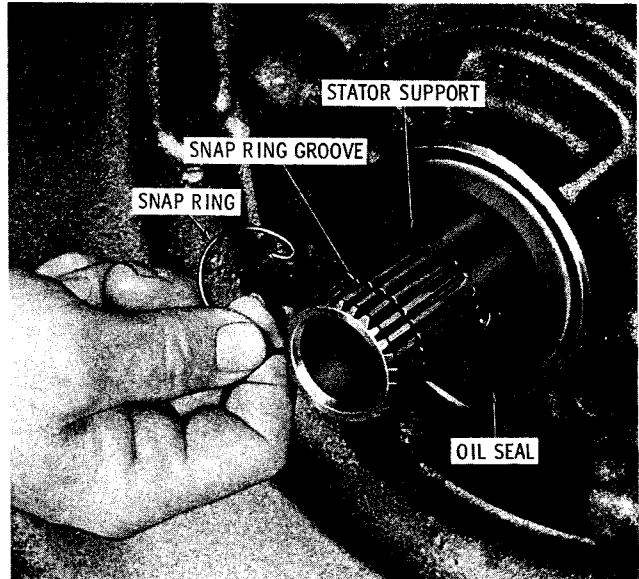

Fig. 7-3. Installing converter snapping (TC 250)
(1) Install snapping 12 (A, foldout 4) onto stator support 22, placing the ends of the snapping in the slot opening in the stator support. Install the snapping by first inserting one end onto the slot of the support, then "skating" the other end around the support, into the slot (fig. 7-3).
The converter assembly has no positive stop when installed. Therefore, after contacting the snapping the assembly should be moved 1/2 inch or less. Remove the tool. Then move assembly until the snapping springs into position. If the converter assembly is moved 1/4 to 1/2 inch beyond its proper location, the weld bead on the converter hub may damage the oil seal (fig. 7-3) in the charging oil pump.